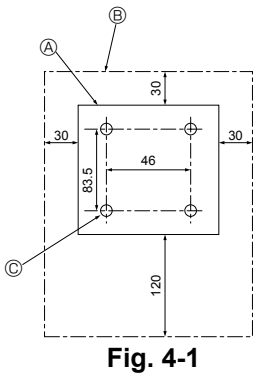

Fig. 4-1
(1) Select an installing position for the remote controller. (Fig. 4-1)
##### [Fig. 4-1]